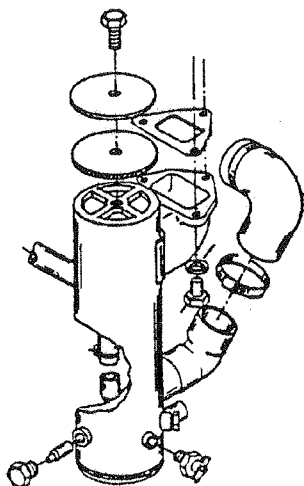

Fig. 23. Heat Exchanger
4. Then, connect negative (-) terminal of booster battery to ground on the engine block. (See Fig. 23).